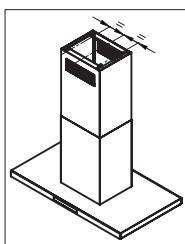

Fig. 3
2. Mark the position of the centre of the cooking hob on the ceiling above the hob (Figure 3). Prior to installation itself, ensure there will be enough space vertically between the hood and the cooker hob, when the hood will be hanging in its place (at least 550 mm from the electric hob or 650 mm from the gas hob), (Figure 4).